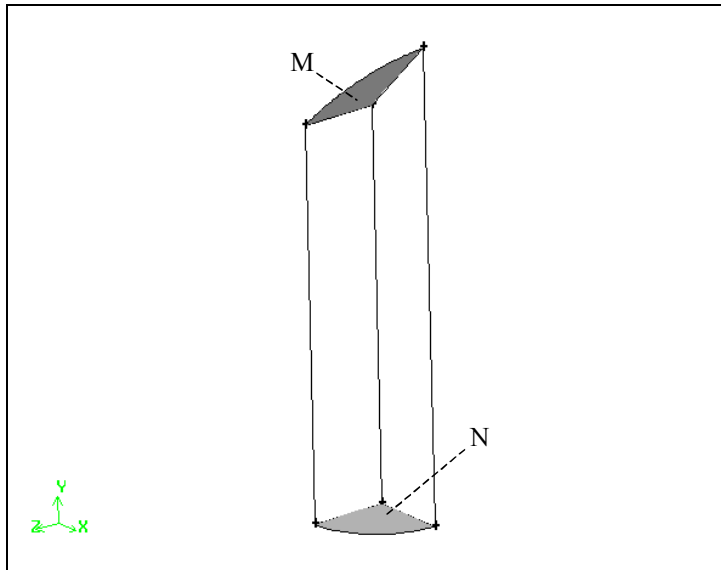

Figure 4-25: Faces to select for cooper meshing on the volume at the side of the burner geometry
The volume to be selected is shown in Figure 4-25.
- c) Left-click in the **Source** list box (which will turn yellow), and select the faces marked M and N in Figure 4-25 as the **Source** faces.